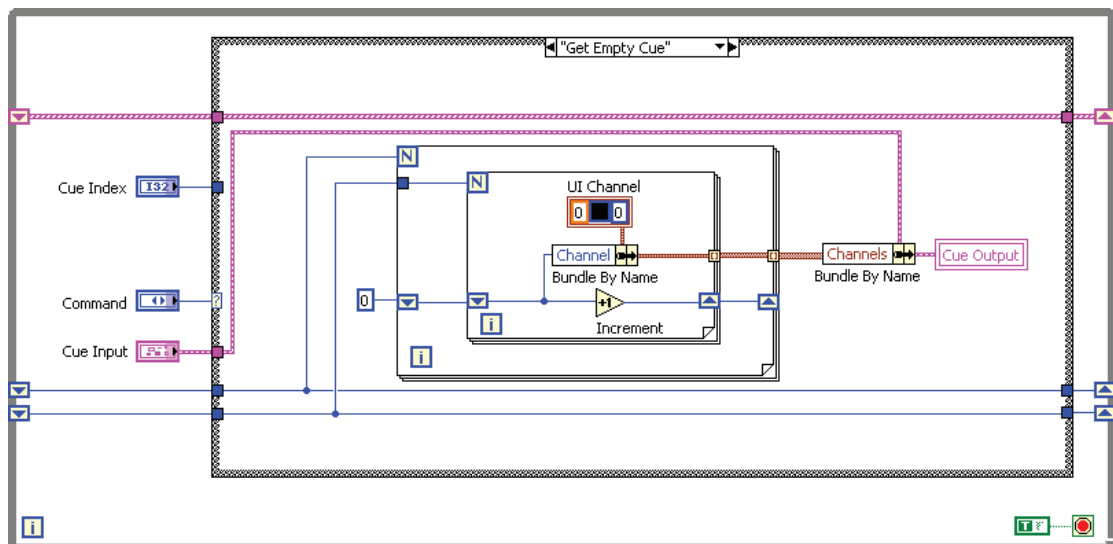

Figure 4-16. Get Empty Cue Case
10. Complete the Get Empty Cue case, as shown in Figure 4-16.